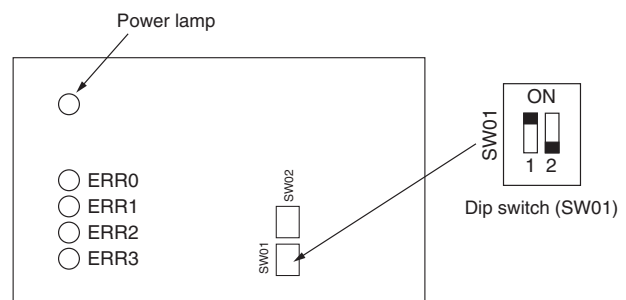

Fig.3 Control P.C.Board
- When the switch No. 1 of the dip switch (SW01) on the control P.C.Board is turned ON, the noise reducing control is enabled. (Fig. 3)